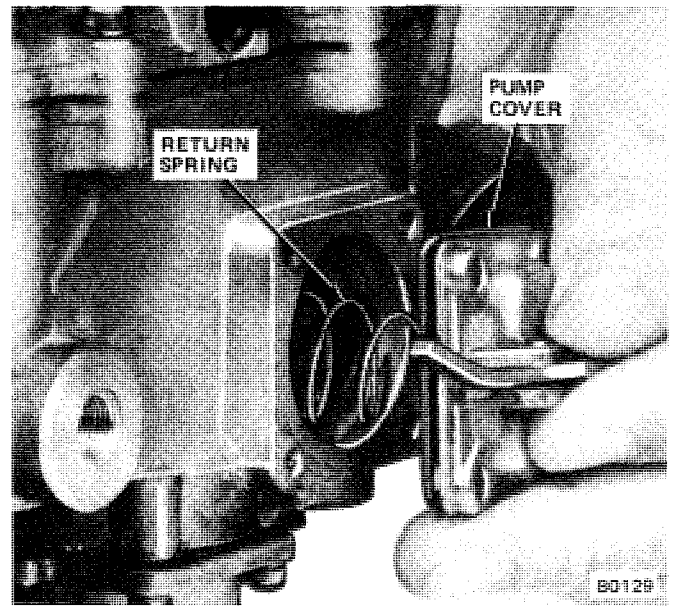

Fig. 1J-82 Accelerator Pump Assembly
(19) Invert main body and remove power valve cover, gasket and screws. Remove power valve (fig. 1J-83). Remove and discard power valve gasket.
(20) Remove limiter caps from idle mixture adjusting screws. Use soldering gun to cut through limiter caps. Remove idle mixture adjusting screws and springs.
(21) Remove solenoid, if equipped.